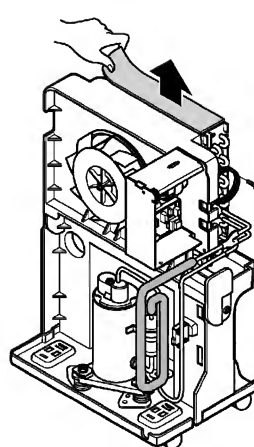

Figure 26
3. After discharging the refrigerant completely, remove 2 screws between the housing assembly and the H/E. (See Figure 26)